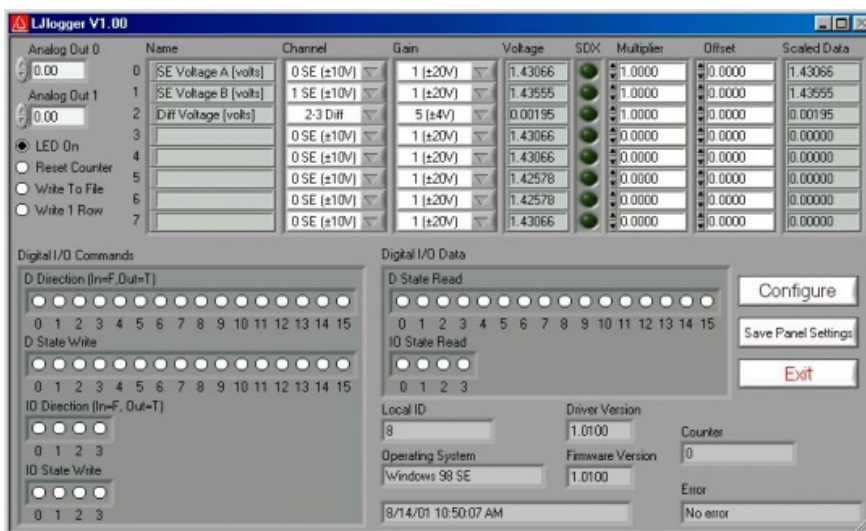
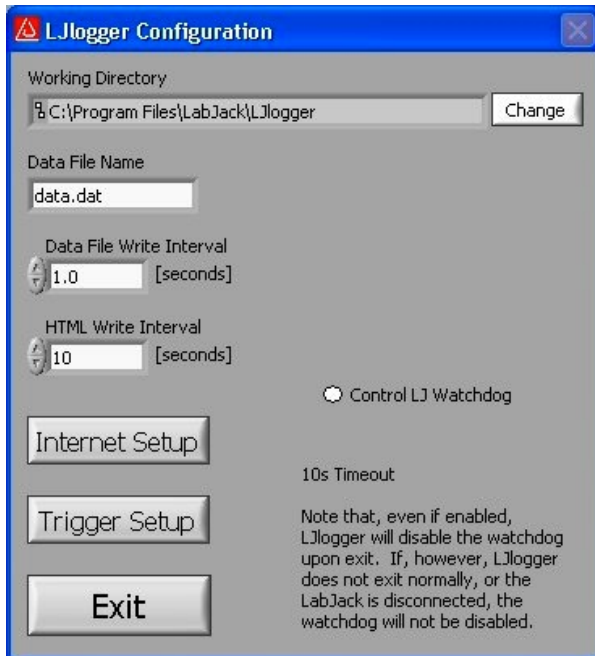
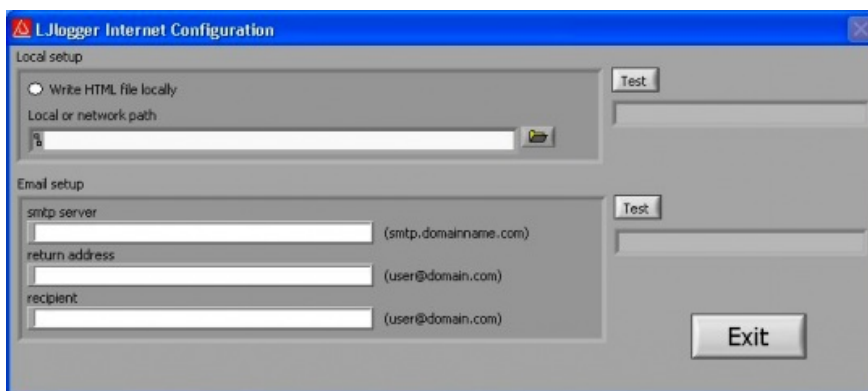

Figure 3.4-1. LJlogger
Figure 3.4-2. LLogger Configuration
Figure 3.4-3. LLogger Internet Configuration
The main window for LJlogger is shown in Figure 3.4-1. The white colored items and the “SDX” buttons are controls to be edited/selected by the user. The grey colored items are indicators which display various information about the LabJack. Clicking the button labeled “Save Panel Settings” will save the current values of the controls as the default values.
Clicking the “Configure” button shown in Figure 3.4-1 brings up the window shown in Figure 3.4-2:
Clicking on the “Internet Setup” button in Figure 3.4-2 brings up the Internet configuration window shown in Figure 3.4-3. Basic customization of the HTML file can be done by clicking on “AdvancedHTML Configuration” which brings up Figure 3.4-4.
Clicking on the “Trigger Setup” button in Figure 3.4-2 brings up the window shown in Figure 3.4-5.
- **Trigger #0:** If the scaled data from analog input row 7 (Figure 3.4-1) is greater than 5, then set AO1 to 5 volts. Once triggered, there is a 10 second delay before it can be triggered again.